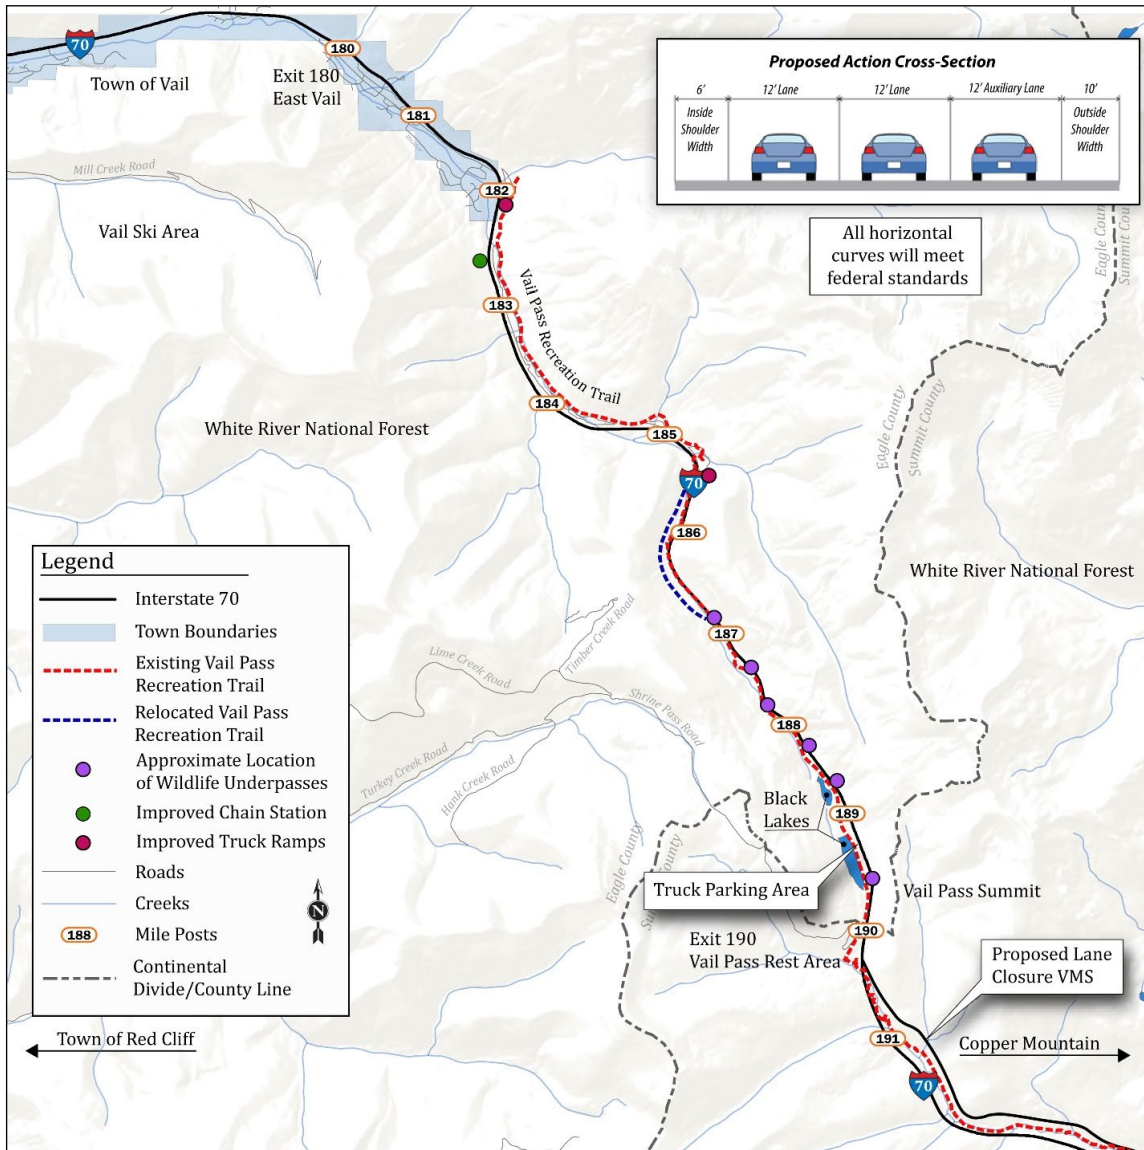

Figure 1.1 West Vail Pass Auxiliary Lanes Proposed Action Alternative
The West Vail Pass Auxiliary Lane Environmental Assessment (**EA**; CDOT, 2020f; **Figure 1.1**) was conducted to evaluate proposed improvements along I-70. The Proposed Action of the West Vail Pass I-70 Auxiliary Lanes Project, as outlined in the EA, includes the addition of a 12-foot auxiliary lane, both EB and WB, for 10 miles from approximately the East Vail exit (Mile Post (MP) 180) to the Vail Pass Rest Area exit (MP 190). All existing curves will be modified as needed to meet current federal design standards. Other additional elements of the proposed action include: